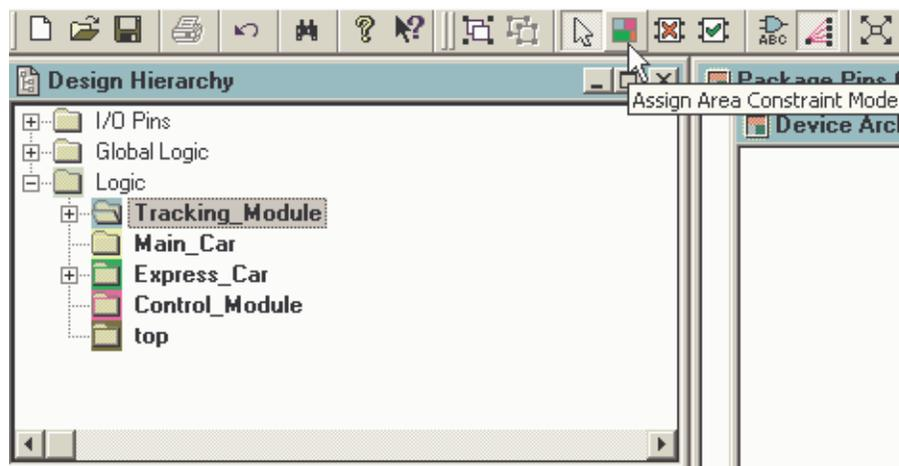

Figure 4: Creating an Area Group Using the Assign Area Constraint Mode Icon
5. Create an Area Group for each Logic Group. Highlight one of the Logic Groups in the Hierarchy window and then click on the Assign Area Constraint Mode Icon (**Figure 4**).